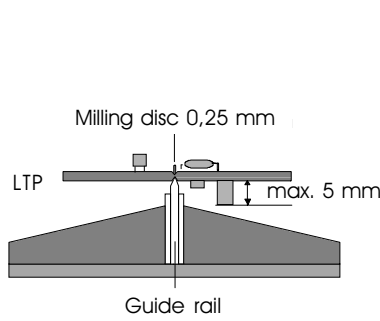

Figure 4
- Component height up to 5 mm (see page 7, figure 4).